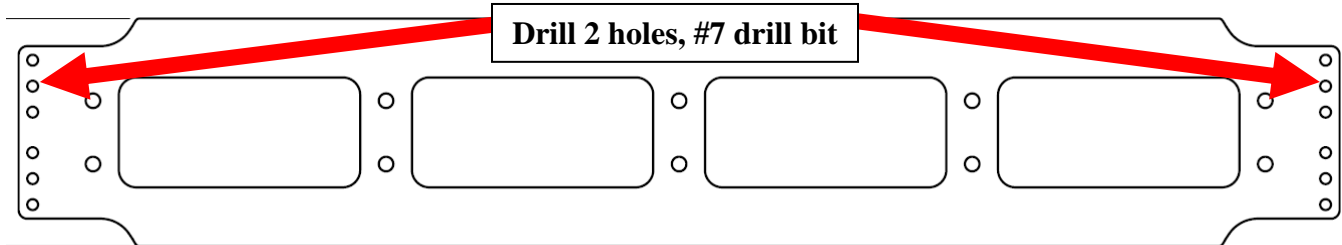

Figure 9: Hose bracket, drill 2 holes
5. Reset hose bracket P/N: (437556). See figure 9 and 10.